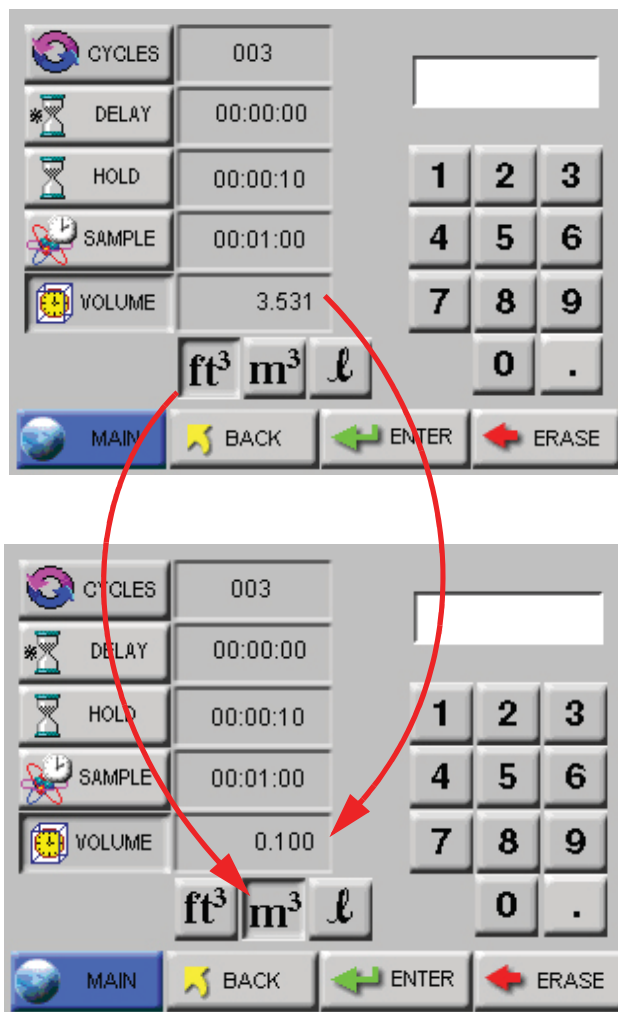

Figure 6-29 Changing Sample Volume Unit of Measure
- **SAMPLE VOLUME:** Instead of selecting a specific Sample Time, the instrument can be set to measure a specific Sample Volume in cubic feet (ft^3), cubic meters (m^3) or liters (l). When this is set, the corresponding Sample Time will automatically be set. See Figure 6-29.